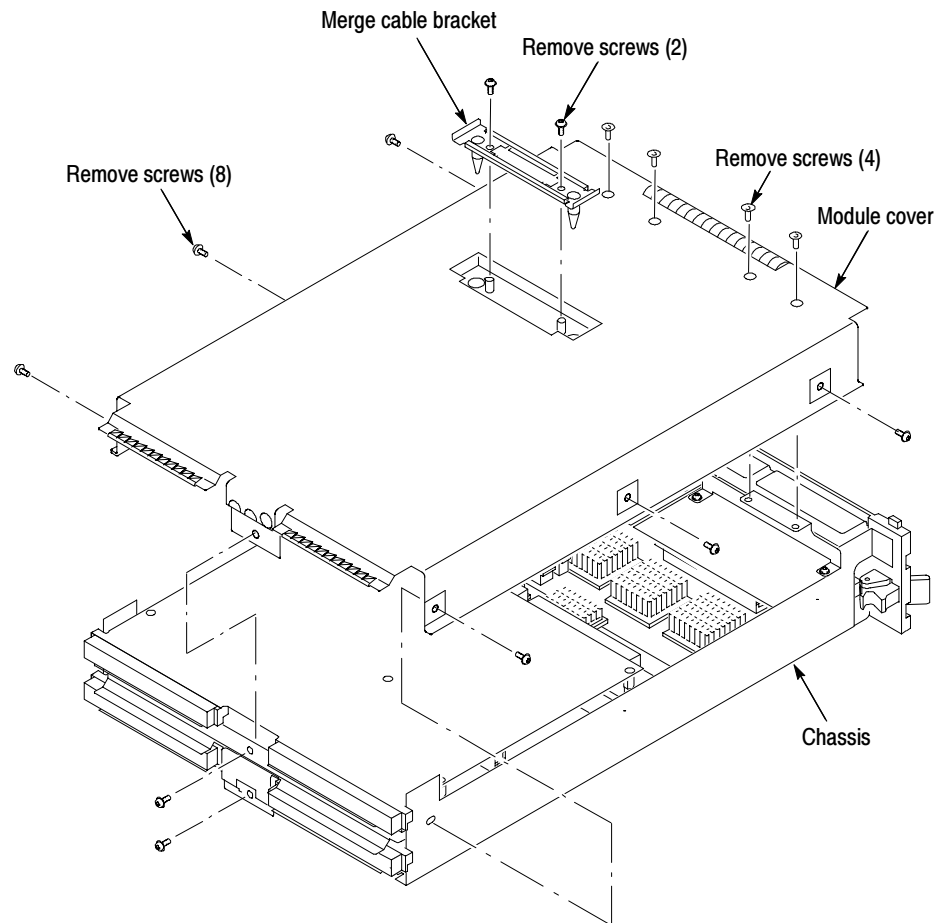

Figure 20: Removing the cover
4. Remove the screws from the module cover with a screwdriver with a T-10 Torx tip; refer to Figure 20 on page 33.